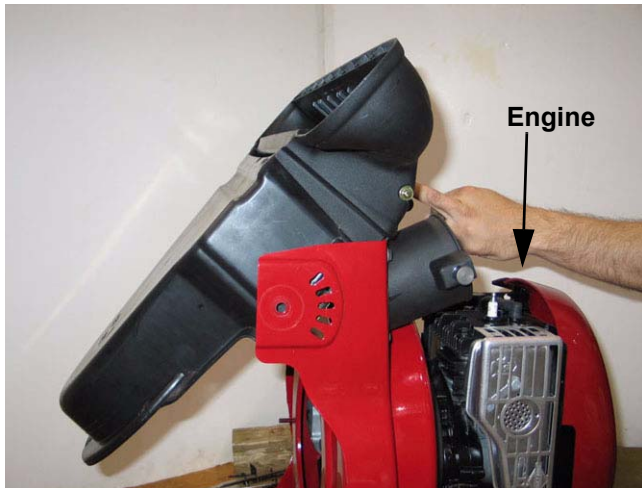

Figure 5.3
- 5.3. Remove the black plastic nozzle as described in the **BELT AND IMPELLER REMOVAL** section of this manual. See Figure 5.3.